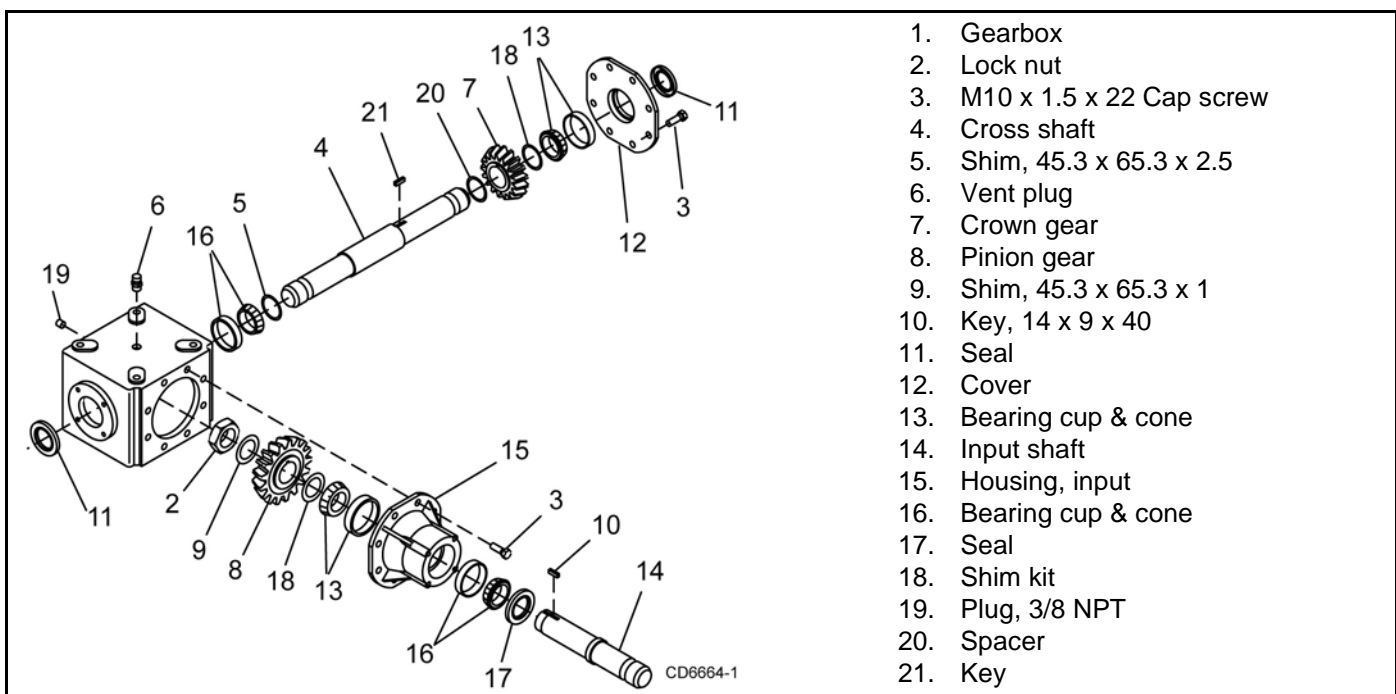

Figure 21. Center Gearbox Assembly
2. Remove vent plug (3) and siphon gear lube from housing through this opening.
3. If the leak occurred at either end of horizontal shaft (spindle gearbox), remove oil cap (24) and/or oil seal (10). For splitter gearbox (Figure 21) use oil seals (11) and (17). Replace with new one (refer to Seal Installation, page 28).
Refer to Figure 21.